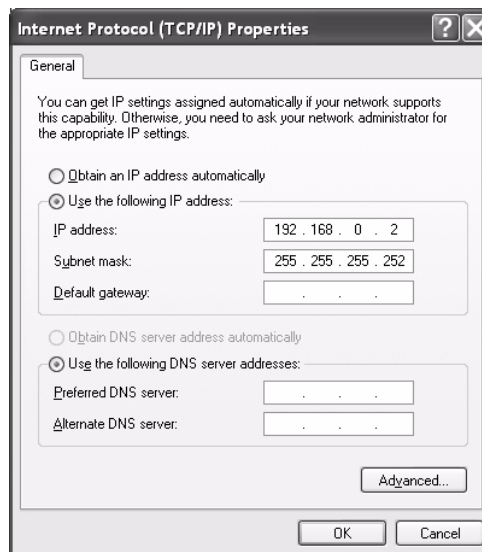

Figure 69: Internet Protocol Properties - Windows XP
6. Click **Properties**. The Internet Protocol Properties window appears as shown in Figure 69.